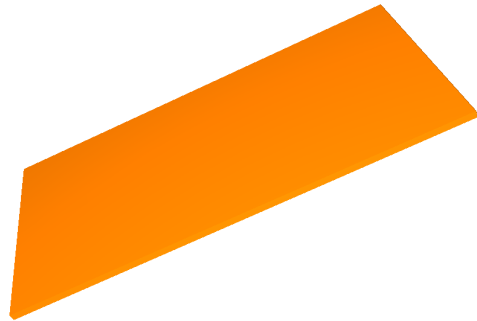

Figure 2: Skin1 collision
- Collision model: triangles (created with hexa2quad and then quad2triangle mapping from behavior model): Fig 2.